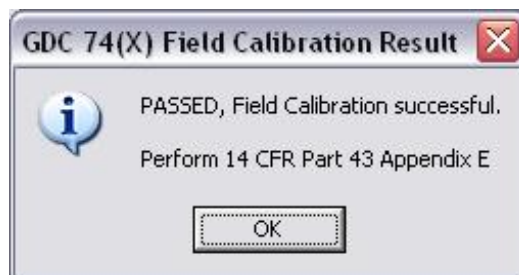

Figure 5-33. 'Field Calibration Result' Screen
2. Connect the GDC 74B to the PC serial port using the interface cable (Figure 5-33).
3. Connect the interface cable to the power supply (Figure 5-33).